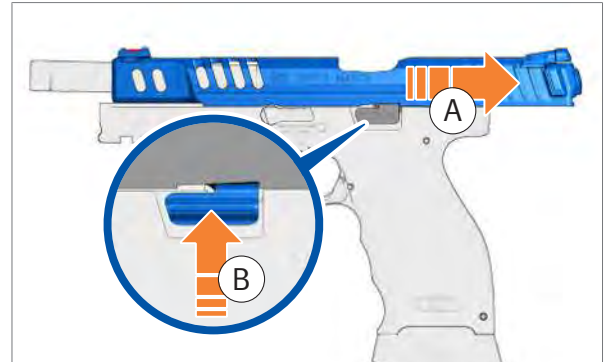

Fig. 19: Lock slide
1. Pull slide all the way back and hold it there (*Fig. 19*).
2. Press slide release upwards to lock slide (*Fig. 19*).